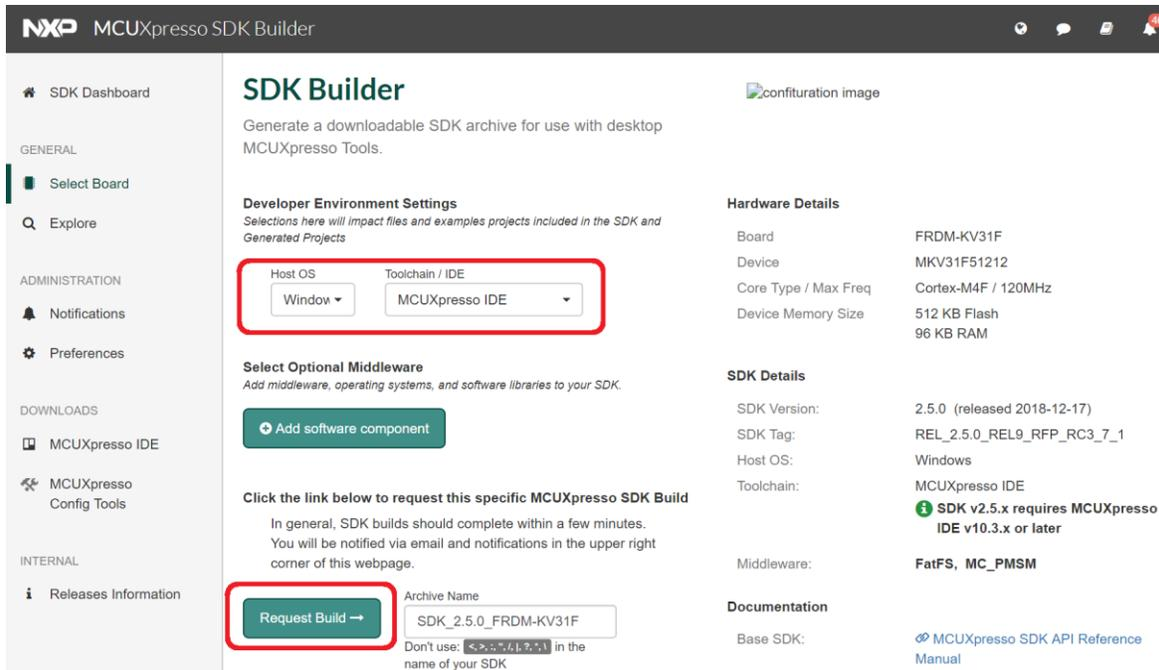

Figure 11. MCUXpresso SDK—"Request Build" button
3. Select the host OS and IDE and click “Request Build”, as shown in Figure 11. It is also possible to add the MC_PMSM software component that contains the SDK motor-control examples for several Kinetis and i.MX boards.